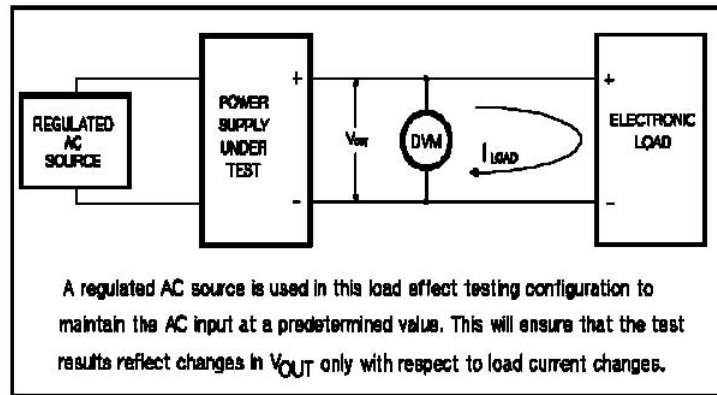

Figure 1-8 Basic Test Setup
- 1 Connect the test equipment across the output of the V1 supply as shown in **Figure 1-8**. Operate the electronic load in constant current mode and set its current to 1.000 A. Input off the electronic load.
- 4 Operate the electronic load in open (input off) mode and recheck the DVM indication immediately. The readings' difference during the immediate change should be within 0.01% plus 2 mV of the reading in step (3).
- 5 Repeat steps (1) through (4) for the V2 supply.
- 2 Connect the test equipment across the output of the V1 supply as shown in Figure 1-8. Operate the electronic load in constant current mode and set its current to 1.000 A. Input off the electronic load.
- 1 Connect the test equipment across the output of the V1 supply as shown in Figure 1-8, but replace the DVM with the oscilloscope. Operate the electronic load in constant current mode.
- 1 Connect the test equipment across the output of the V1 supply as shown in Figure 1-8.
- 6 The output voltage reading should deviate less than 0.1% plus 5 mV from the reading obtained in step (5) over a period of 8 hours.
- 7 Repeat steps (1) through (6) for the V2 supply.